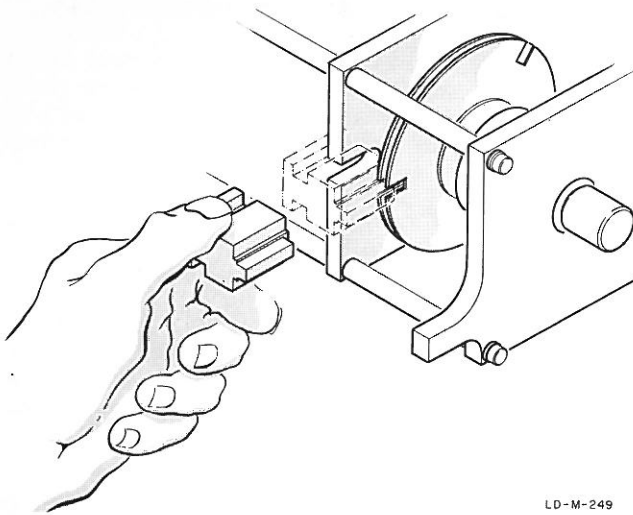

Figure 7-2. Disk Alignment
k. Insert disk alignment jig into slot in right side of center plate (figure 7-2). Rotate motor shaft to align slot in front disk with tongue of jig. Rotate rear disk